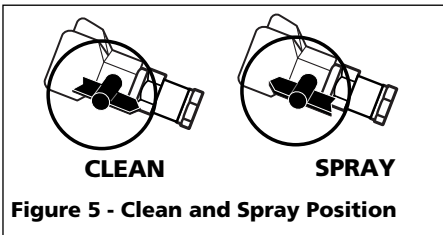

Figure 5 - Clean and Spray Position
1. Rotate the tip to the clean position (See Figure 5).
3. Rotate the tip back to the spray position and continue spraying (See Fig. 5).